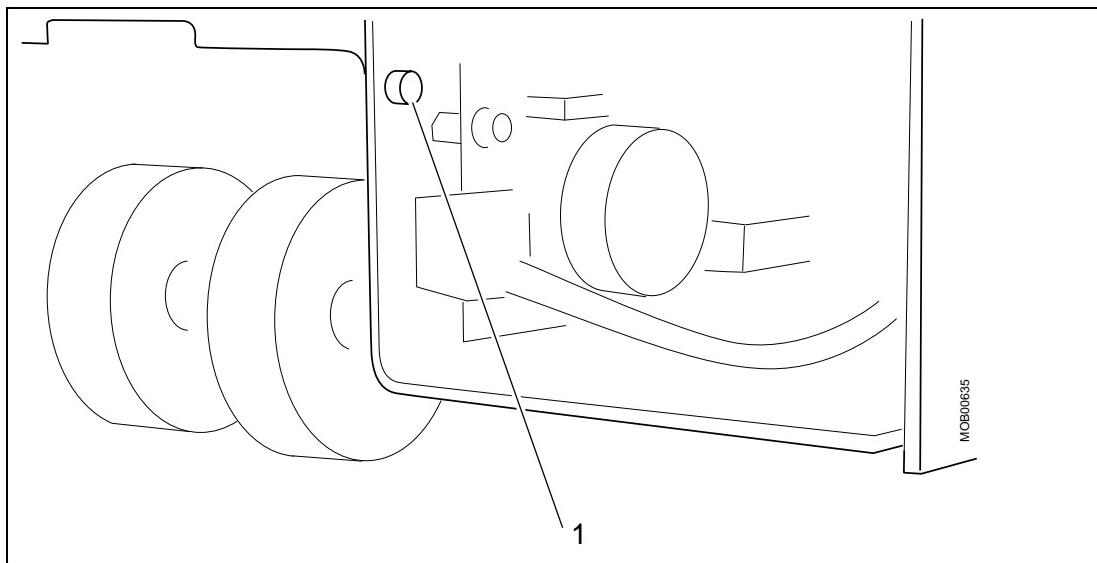

Fig. 13
- Remove front screw (pos. 1 / Fig. 13).